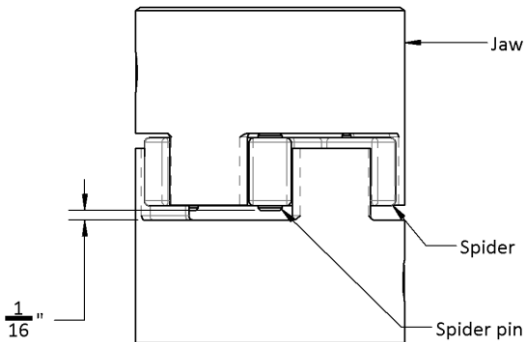

Figure 14 – Jaw coupling installation
1. Make sure that there is a  $\frac{1}{16}$ " clearance between the spider pins and the coupling jaws (shown in Figure 14 below).